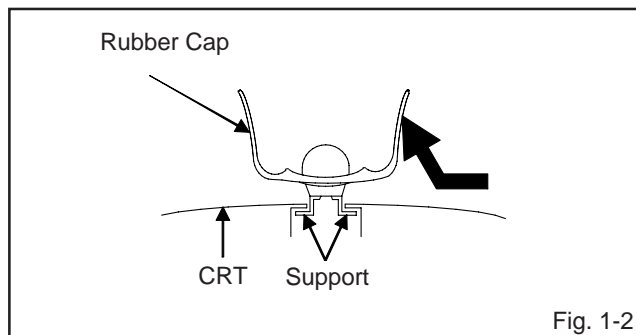

Fig. 1-2
2. Flip up the sides of the Rubber Cap in the direction of the arrow and remove one side of the support. **(Refer to Fig. 1-2.)**